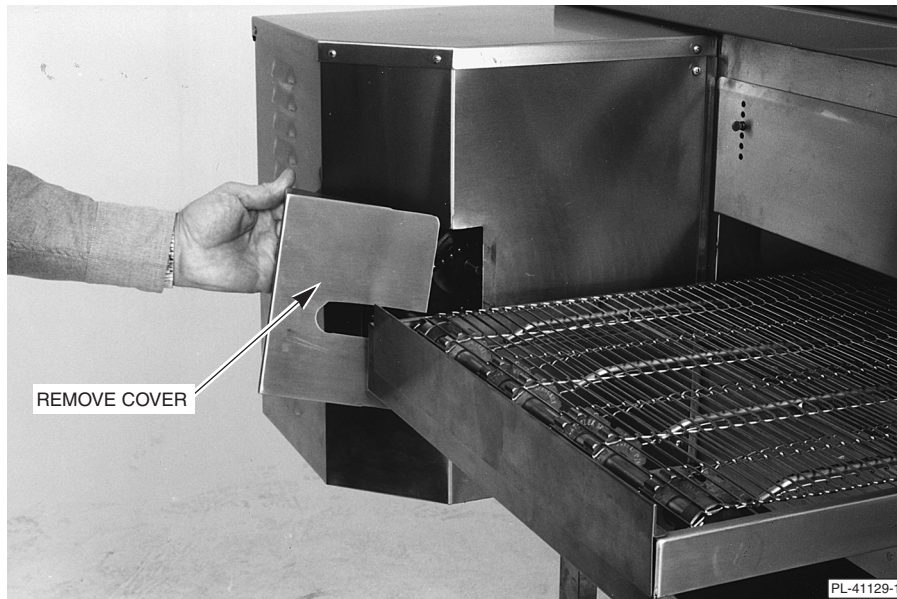

Fig. 9
- b. Remove cover where conveyor shaft enters the left-hand control box (Fig. 9).